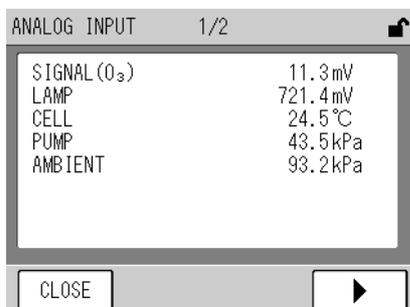

Fig. 59 ANALOG INPUT screen
- [ANALOG INPUT]: Displays the ANALOG INPUT screen (Fig. 59 on page 48).